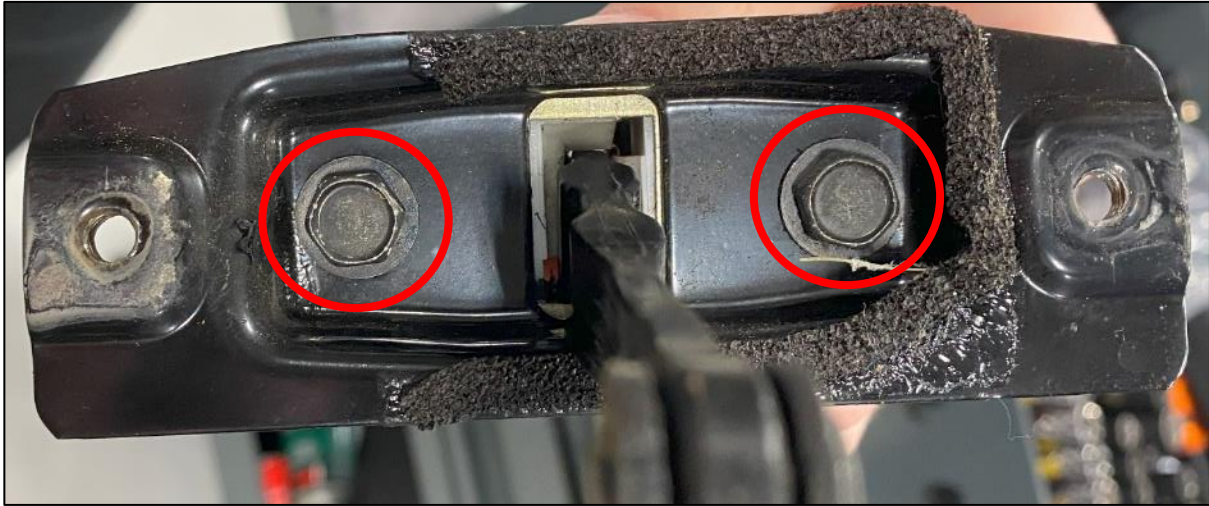

Figure 105
4. Remove the (2) two 10mm nuts that secure the Plate and remove the Black Plate from the Hinge and set aside. Again, make sure to note the Orientation of the Plate for reinstallation. *Figure 105.*